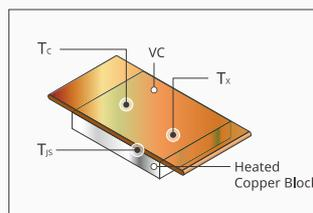

Figure 1. Schematic diagram of TGP-VC measured with two-point temperature difference.
The TGP-VC two-point temperature difference measurement method is based on the standard <TTMA-VC-2020> set by the Taiwan Thermal Management Association. The performance indicators are the axial thermal resistance $R_{th,z}$ (or the axial temperature difference $\Delta T_{j_s,c}$) of the VC, the junction temperature T_{j_s} , and the two-point temperature difference $\Delta T_{c,x}=T_c-T_x$ and the maximum heat transfer rate Q_{max} . Using a heated copper block to simulate IC chip heating, as shown in Figure 1. The hot plate of the VC is placed above the heated copper block. Measure the center temperature T_c of the cold plate of the VC, the second point temperature T_x , and the junction temperature T_{j_s} of the heated copper block. T_{j_s} is used to calculate the axial thermal resistance $R_{th,z}$ of VC. During measurement, the changes in axial thermal resistance $R_{th,z}$ of VC under different heating powers (W) are recorded. When the axial thermal resistance reaches the lowest value, the heating power is Q_{max} . As shown in Figure 2, when the heating power is 8.5W, the axial thermal resistance reaches the minimum value, and the Q_{max} of this VC is 8.5W.